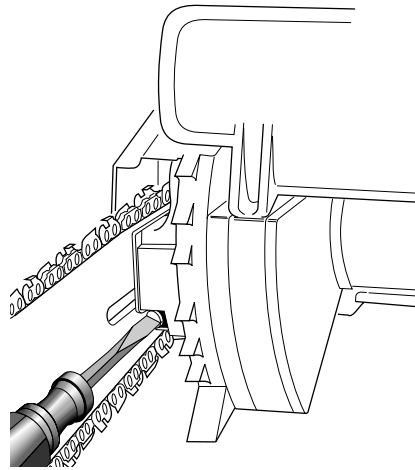
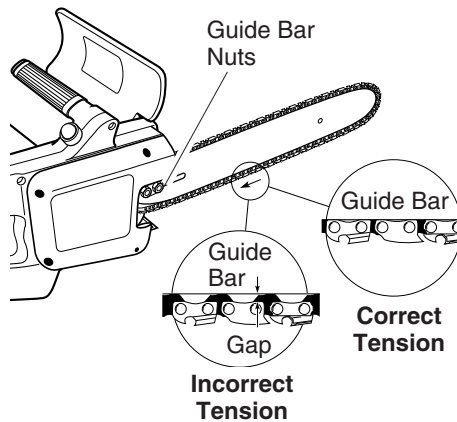

Figure 5 - Turning Adjusting Screw
Figure 6 - Saw Chain Adjustment
2. Turn adjusting screw clockwise until all slack is out of chain (see Figure 5). **Note:** There should be no gap between side links of chain and bottom of guide bar (see Figure 6).